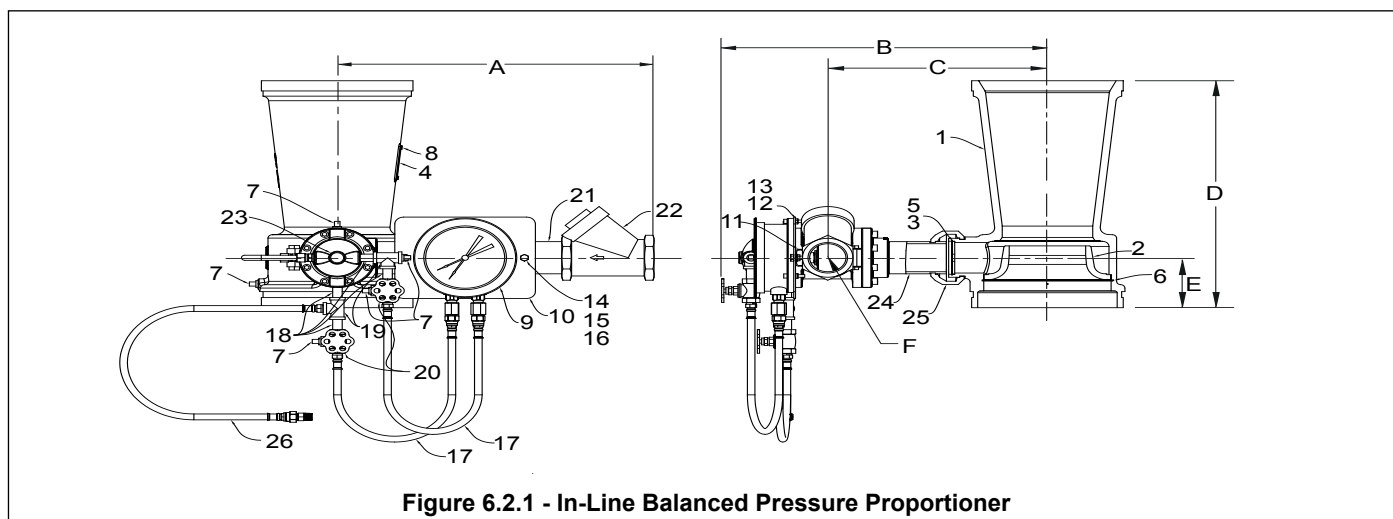

Figure 6.2.1 - In-Line Balanced Pressure Proportioner
- The foam concentrate supply line diameter may need to be increased above the foam inlet size ("F" Fig 6.2.1) due to friction loss in piping from the riser back to the foam source.
- If installed in a horizontal header, the check valve ("22" Fig 6.2.1) must be oriented so that the clapper is perpendicular to the floor and access hole is facing up (as shown below).